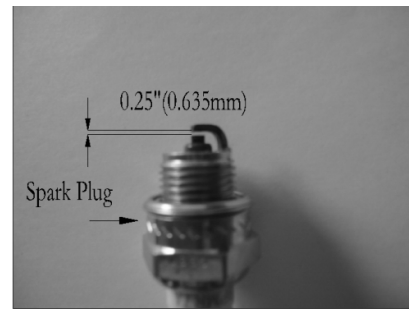

Fig.19
2. To remove spark plug (Fig.19) for cleaning or replacement: Make sure engine is off, spark plug is cool, then grasp spark plug boot firmly and remove from spark plug. Remove spark plug with correct spark plug tool. Inspect, clean or replace as needed.
3. Spark plug gap = .025 in (.635mm) (Fig.19).
3. Clean and gap spark plug or install a new spark plug with proper gap (Fig.19).